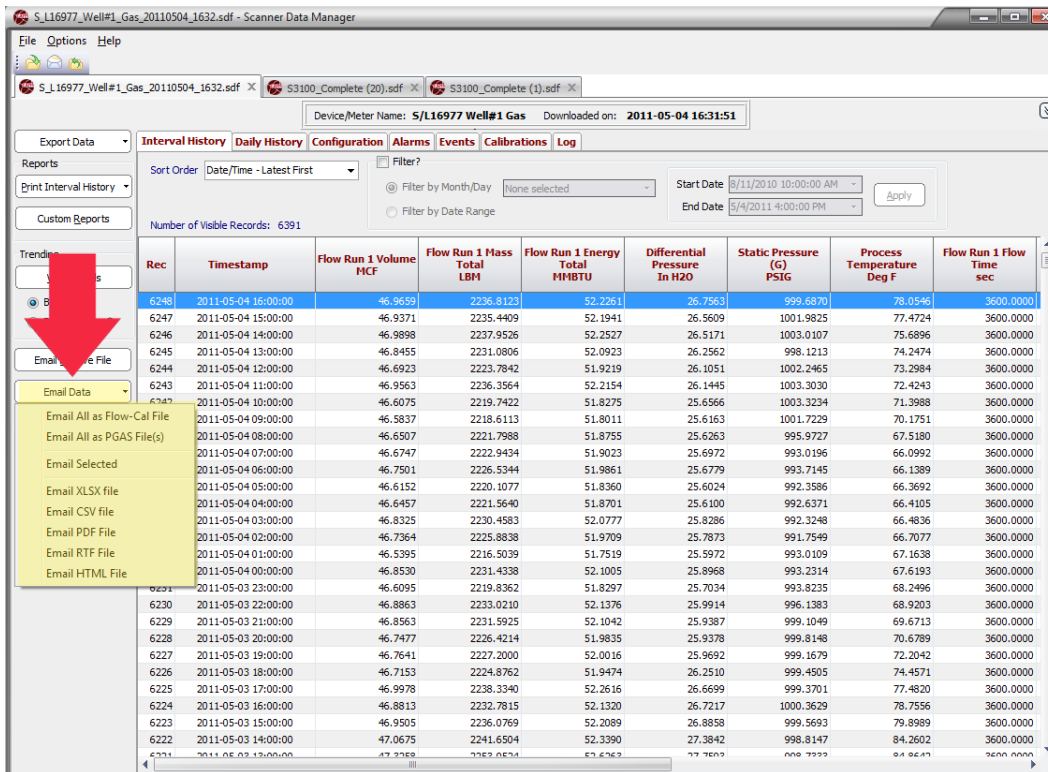

Figure 5.10—Email Data button and dropdown menu
2. Click on the **Email Data** button in the left column of the screen and choose the appropriate “Email All as...” selection from the dropdown menu (Figure 5.10, page 62).